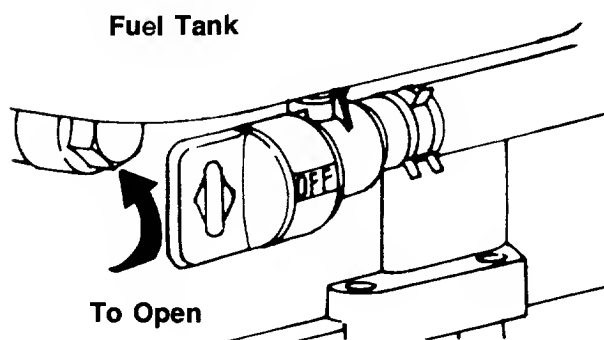

FIGURE 18.
2. Open fuel shut-off valve, located beneath the fuel tank. See figure 18.